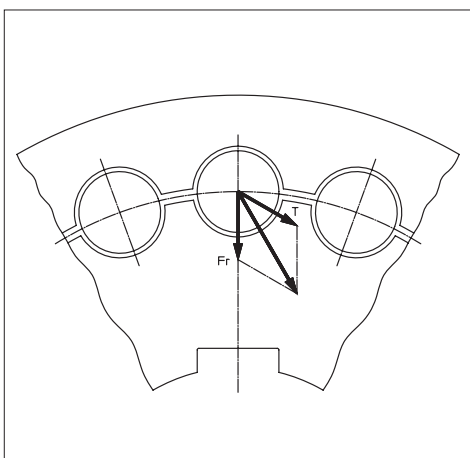

Fig. 6
*The barrel rollers accept the compressive strains caused by the torque and the radial load over a large area. This design means that the risk of a tooth fracture resulting from bending stress is excluded. (Fig. 6)*